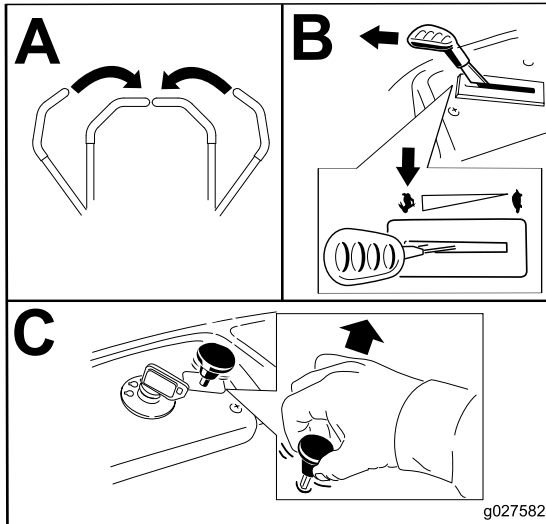

Figure 13
2. Move the throttle lever to the Fast position (Figure 13).